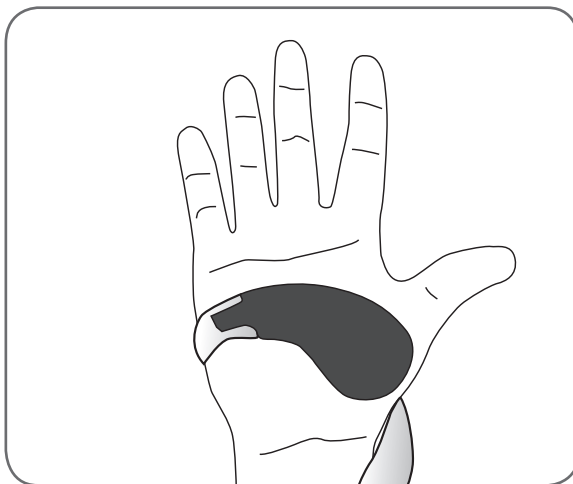

Figure 8-9: Positioning the thenar.
1. Position the Orthosis on a stable surface, and place your hand in the spiral end of the Orthosis. The #3 thenar cloth electrode should rest at the base of your thumb. See Figure 8-9.